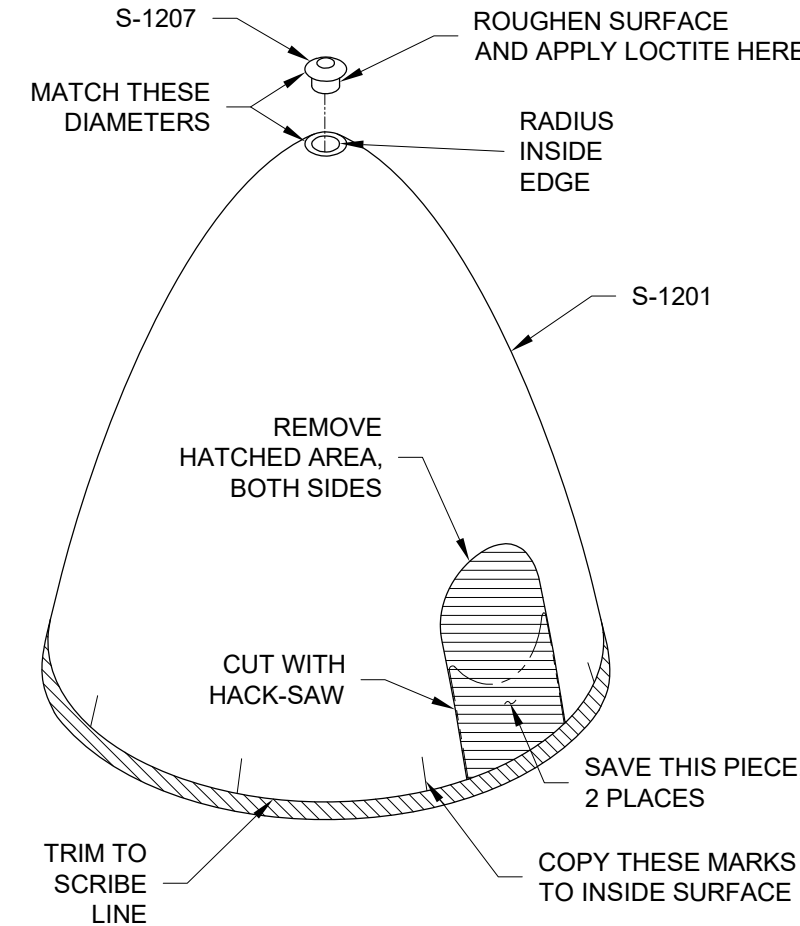

FIGURE 1: MAKING THE PROPELLER CUTOUT
Step 3: Sand the tip of the S-1201 Spinner until the outer diameter matches the outside diameter of the S-1207 Bushing as shown in Figure 1. Remove a little at a time with a flat sanding block. Care should be taken to keep the surface level.
Using sandpaper, create a small radius on the inside edge of the spinner opening to allow the bushing to mate properly with the spinner. See Figure 1.
Step 4: Roughen the surface of S-1207 with coarse grit sandpaper where it will contact the S-1201. Apply a thick smear of West Systems 105 two-part epoxy, or equivalent, to the S-1207 and insert in the S-1201. See Figure 1. Remove the excess epoxy. Let the epoxy fully cure before continuing.